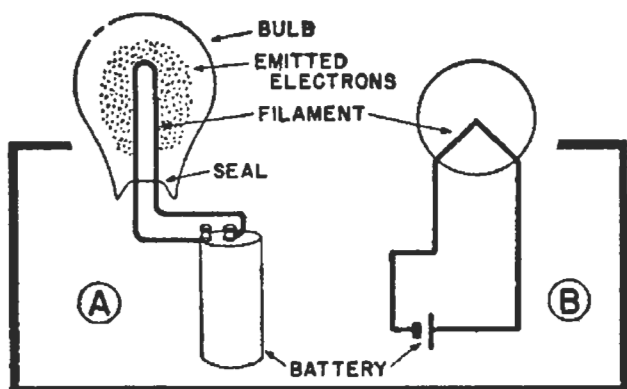

FIG. 1. When the filament is heated, electrons are emitted. Notice the symbols at B for the tube filament and for the battery.
Suppose we start with a tube consisting of a filament, made of thin resistance wire, enclosed in a glass or metal bulb from which all the air has been pumped. If we connect a battery to this filament (Fig. 1), the current
► It is important to realize that the current from the battery in Fig. 1 just heats the filament. The electrons emitted by the filament *do not come from this battery current*—they come from the atoms of the filament wire itself. We could heat the filament by a gas flame, or any other heating agent, and get the same electron emission for the same amount of heat. An electric current is generally used to heat the filament because this is the most convenient way to do it.